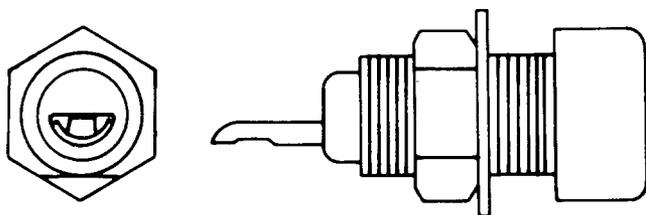

Fig. 5 — KS-20667, L35 or L36, Pin Jack
**2.05 KS-20667, L35 and L36:** The KS-20667, L35 and L36, pin jacks (Fig. 5) accommodate 0.080 inch diameter pin plugs and contain tin-plated contacts with solder tails. The jacks are intended for use in 71E, 76E, 74A, and 78A, power supplies.